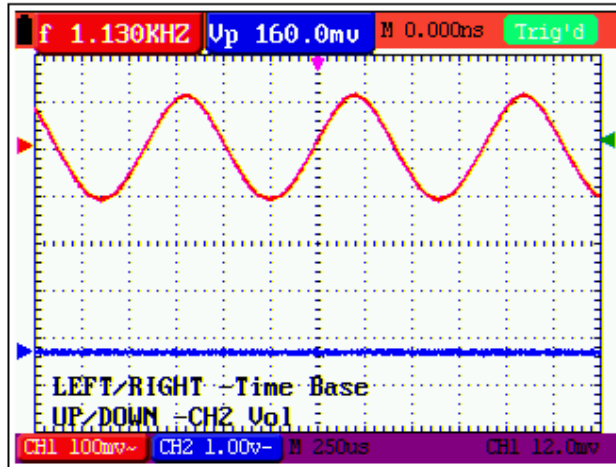

Figure 7: Voltage Unit Scale of Channel 2
3. Press **OSC OPTION** once again, the following display is visible at bottom left side of the screen as shown in figure 7: